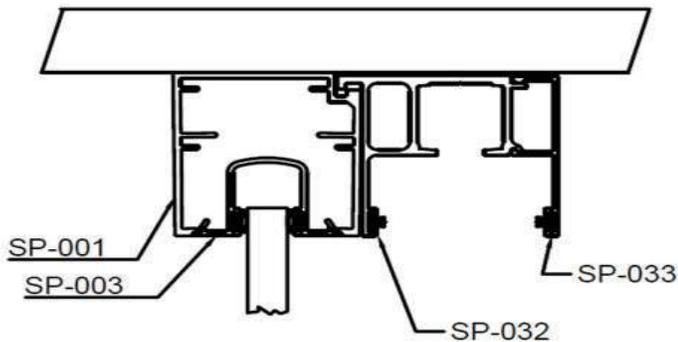

Figure 1: Detail Drawing 17
Step 1: Install sliding track header (see fig. 1).